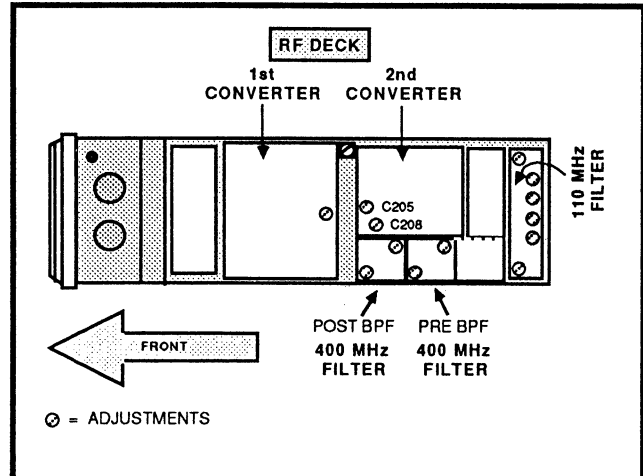

Figure 4-8. RF Mother board adjustment locations.
b. Adjust PRE BPF capacitors for maximum signal amplitude. See Figure 4-8 for the location of adjustments.
(1) Press APPL MENU/#9 (SETUP TABLE)/#0 (DB DOWN FOR BW MODE) and enter -6 dB. Set FREQ SPAN/DIV to 2 MHz.
(2) Press APPL MENU/#0 (BANDWIDTH MODE).
(3) Adjust six capacitors on the 110 MHz Filter for highest amplitude, best filter shape, and centering at center screen of the 5 MHz (4 to 6 MHz) pass band. Check for <1 dB of ripple. See Figure 4-8 for the locations of the capacitors.